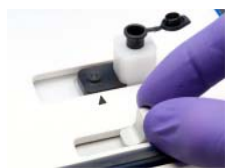

Figure 4-45: Perform Baseline and Dissociation Measurements in Tube and Association Measurement in Drop Holder
6. Ensure that the sample diluent (4 μL in the drop holder) or (250 μL in the tube) are available for reading (Figure 4-45).